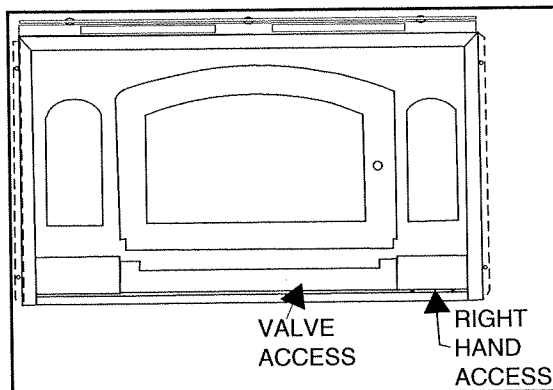
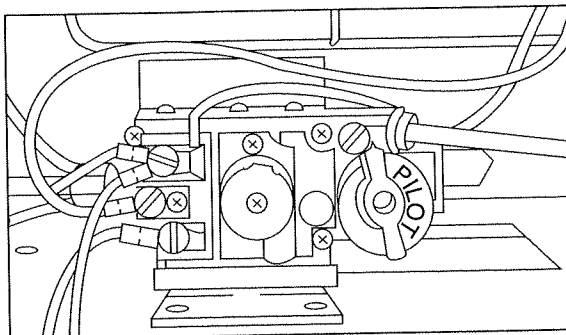

Figure 21
Figure 25
The valve access door, located at the base of the heater in the front, is spring hinged and opens by simply pulling on the handle. See Figure 21. This will expose the gas valve and pilot controls as shown in Figures 25 through 27.
A. Opening the access panel. The access door, located at the base of the heater in the front, opens simply pulling on the handle. See Figure 21. This will expose the gas valve and pilot controls as shown in Figures 25 through 27.